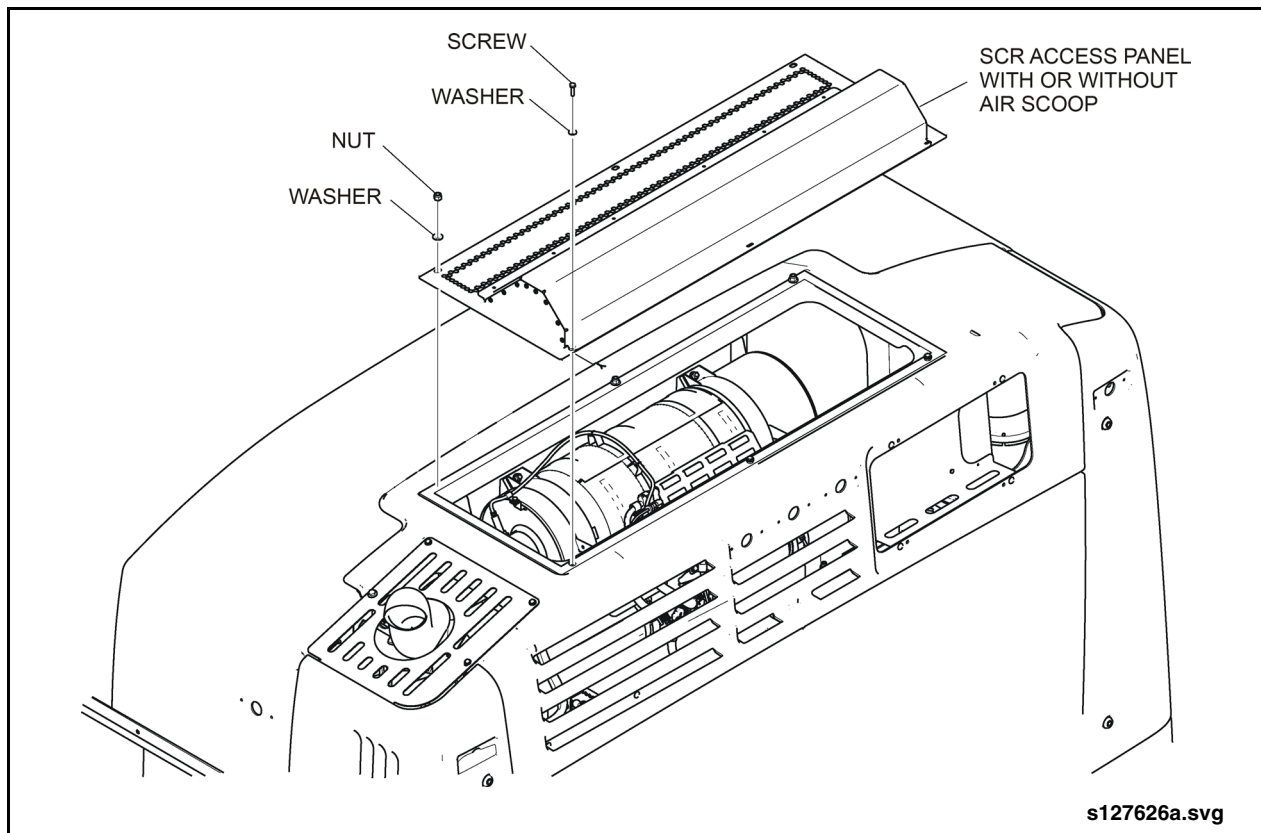

Fig. 1: SCR Access Panel
1. Gain access to the rooftop and remove the SCR access panel. See "Fig. 1: SCR Access Panel" on page 2.